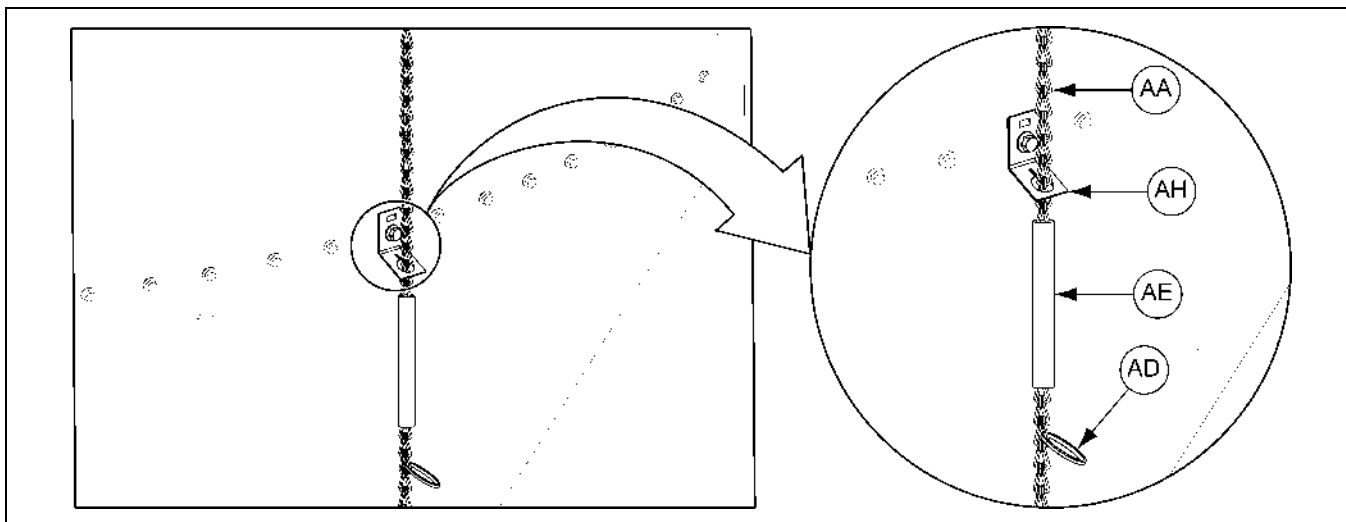

Figure 10P Installing the PVC Handle and Key Ring
9. Install the PVC handle (AE) onto the end of the chain (AA) and position it for easy access while on the ground.
10. Install a key ring (AD) below the handle to keep it in place. (See Figure 10P.)
11. Open and close the lid to test that the key rings (AD) allow the cap to fully close but will not allow the chain enough slack to become wrapped around the control arm (A) in a high wind condition.